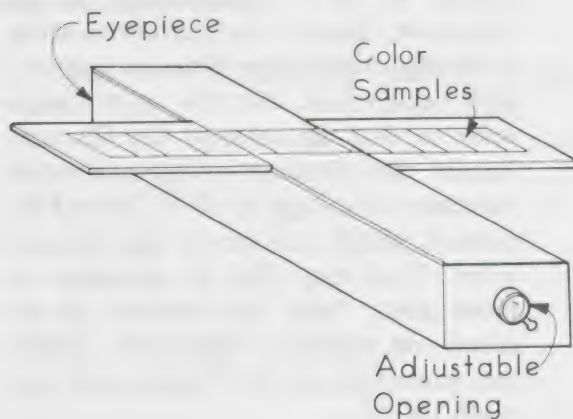

Figure 2.
For this part of the experiment you will need a bunsen burner, pieces of copper wire and iron wire, a stand for holding the wires in the flame, safety glasses to protect your eyes, and a color comparator (see Figure 2).
3. In order to identify the color at the end of the wire, use the color comparator shown in Figure 2.